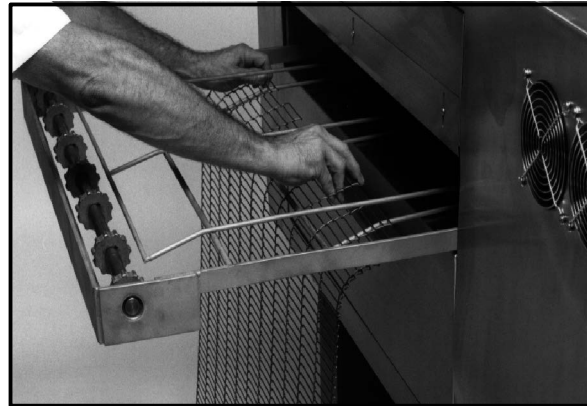

Figure 10
1. Thread wire belt starting from the right hand side of the oven, lower level first. Unroll the belt as shown in Figure 10, otherwise the belt will be upside down. Leave about one foot hanging out on the left side